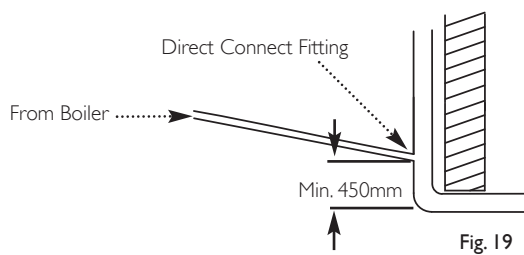

Fig. 19
- ii) to an internal or external soil and vent pipe - Fig. 19.